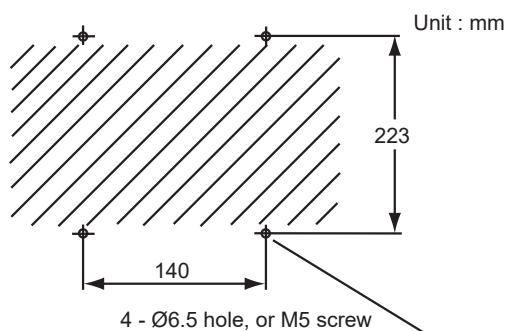

Figure 3.11 Mounting holes
- (1) Make a hole in the wall as illustrated in Figure 3.11.
- (2) Mount the flow setting unit. Remove the pipe mounting parts from the mount fittings of the flow setting unit and attach the unit securely on the wall with four screws.